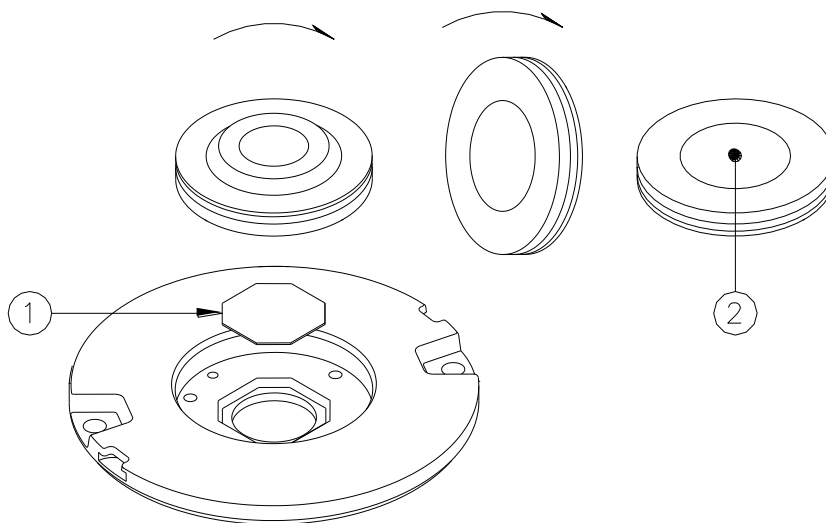

Figure 22 – Lens Surface to be Cleaned
- turn the aluminium ring upside down as shown in Figure 22 and polish the lens (Figure 22 - n° 2) and filter surfaces (Figure 22 - n° 1) with non abrasive glass product